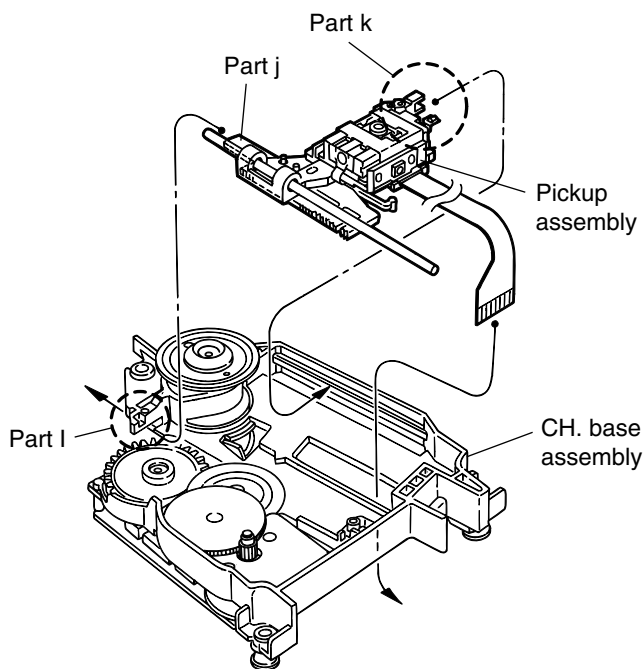

Fig. 15
■ Reinstalling the Pickup Assembly (Refer to Figs. 15 and 16.)